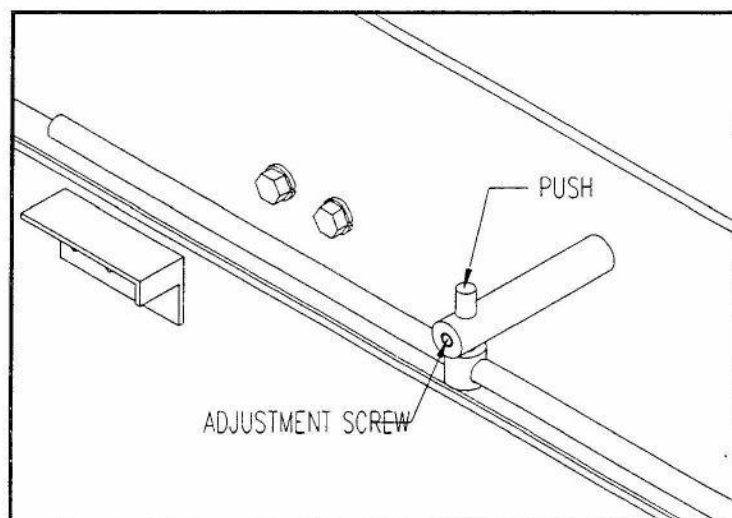

Figure 17
- The manifolds are adjustable upward or downward to insure an even flow of cleaner from the gutter to the center of the lane. Loosen the set screw and move the manifold up or down while observing the flow of cleaner for at least 60 seconds. Tighten the set screw when the cleaner flow is satisfactory. Repeat for the other manifold. See Figure 17.